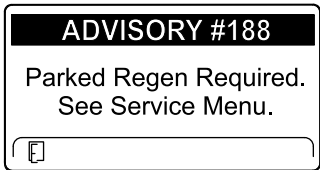

Figure 52
- Parked regeneration required ADVISORY #188 (Figure 52)